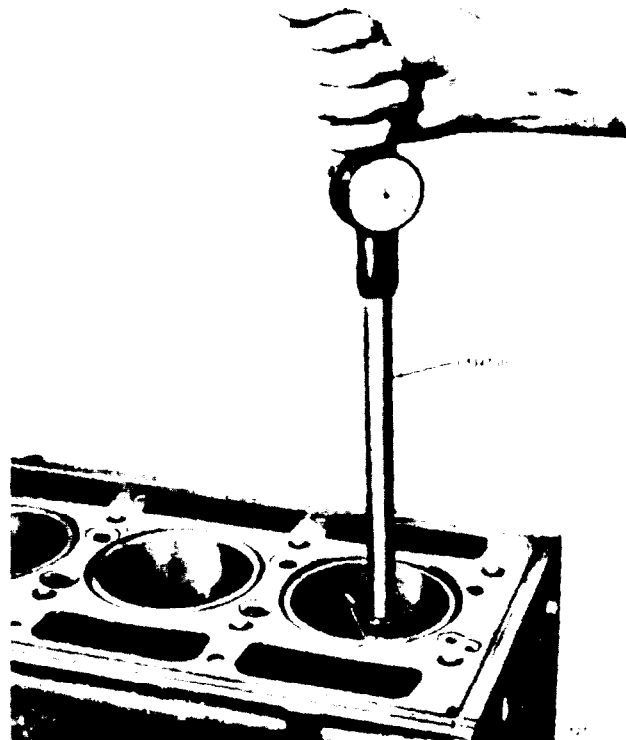

Figure 11B-12. Checking Bore of Cylinder Block
B. Measure the entire bore of each cylinder with bore gauge J 5347-01 (Figure 11B-12) which has a dial indicator calibrated in 0.0001" increments. The standard block bore is 4.6260" to 4.16275". Place the bore gauge in the master ring gauge J 8386-01 which has an I.D. of 4.6270" and set the dial to zero. Take measurements on the cleaned-up surface only at positions A, B, C, E and F in the bore on axes 45° apart (Figure 11B-1). Read the measurements from the zero mark on the gauge. The reading may be recorded on a form similar to the one illustrated in Figure 11B-14.